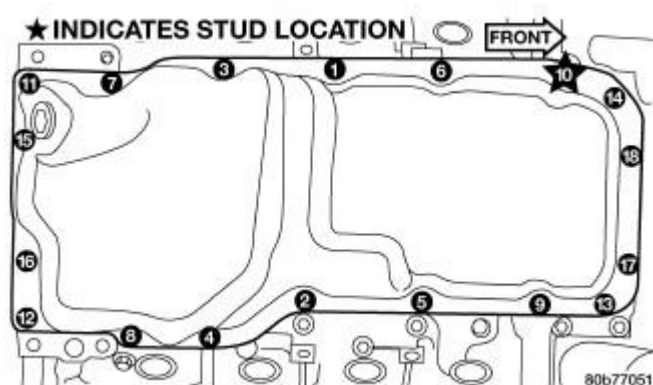

Fig. 191: Oil Pan Tightening Sequence
4. Remove the oil pan mounting bolts and oil pan . See Fig. 191.